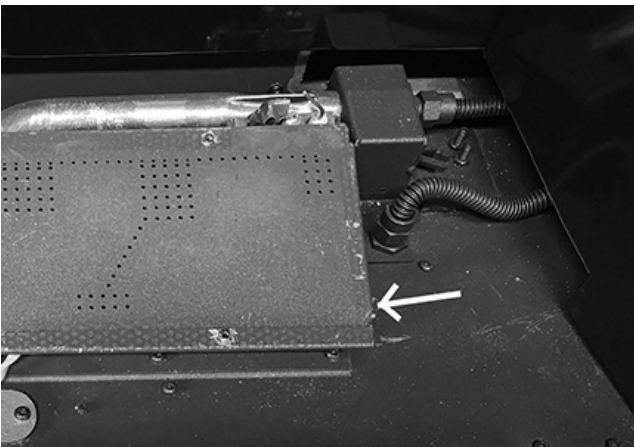

Figure 57: Remove single screw on right side of burner.
3. Remove the single screw securing the right side of the burner to the firebox floor. Figure 57